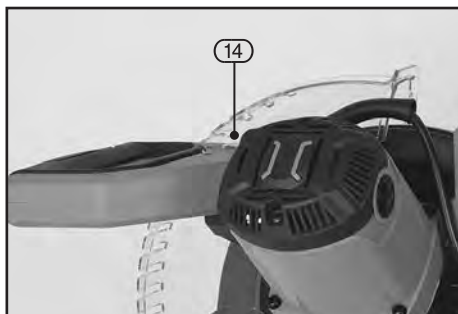

FIG.18
8.12 THE LASER LINE – FIGS.18 – 19